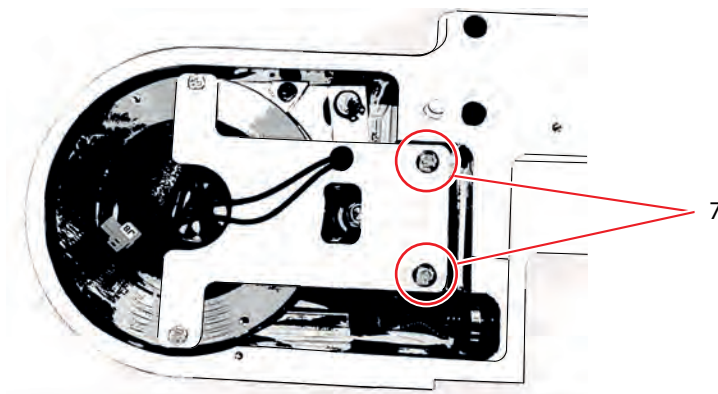

Fig. 5-108
7. Release the two screws at no. 7, Fig. 5-108 . Remove the beta magnet.